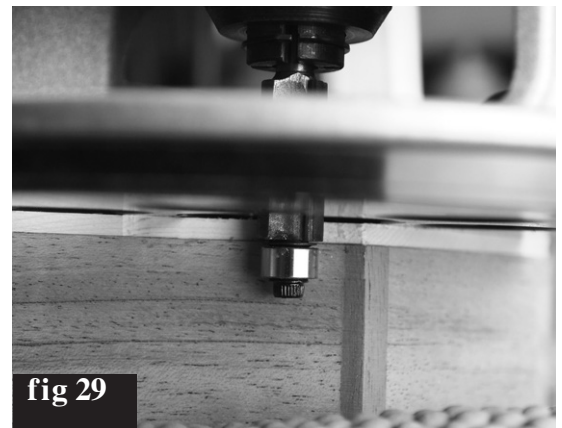

fig 29
29. When satisfied with the depth of your cut, you can rout a ledge around the circumference of instrument. Make sure to move the router in a **CLOCKWISE** direction, just as you did when flush trimming the spruce soundboard (fig 29).